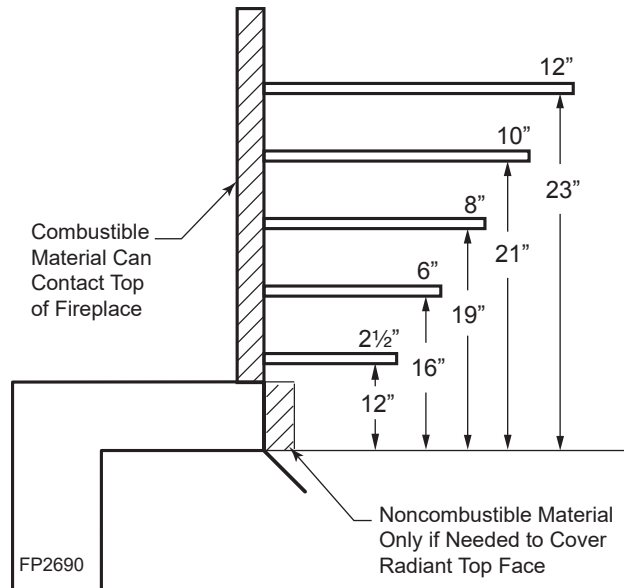

Figure 5 -
4. **Mantel clearances:** The canopy supplied with the unit must be installed. If a combustible mantel is installed, it must meet the clearance requirements as shown in *Figure 5*. However, if lower mantel height is desired, refer to Page 14, *Figure 6*.